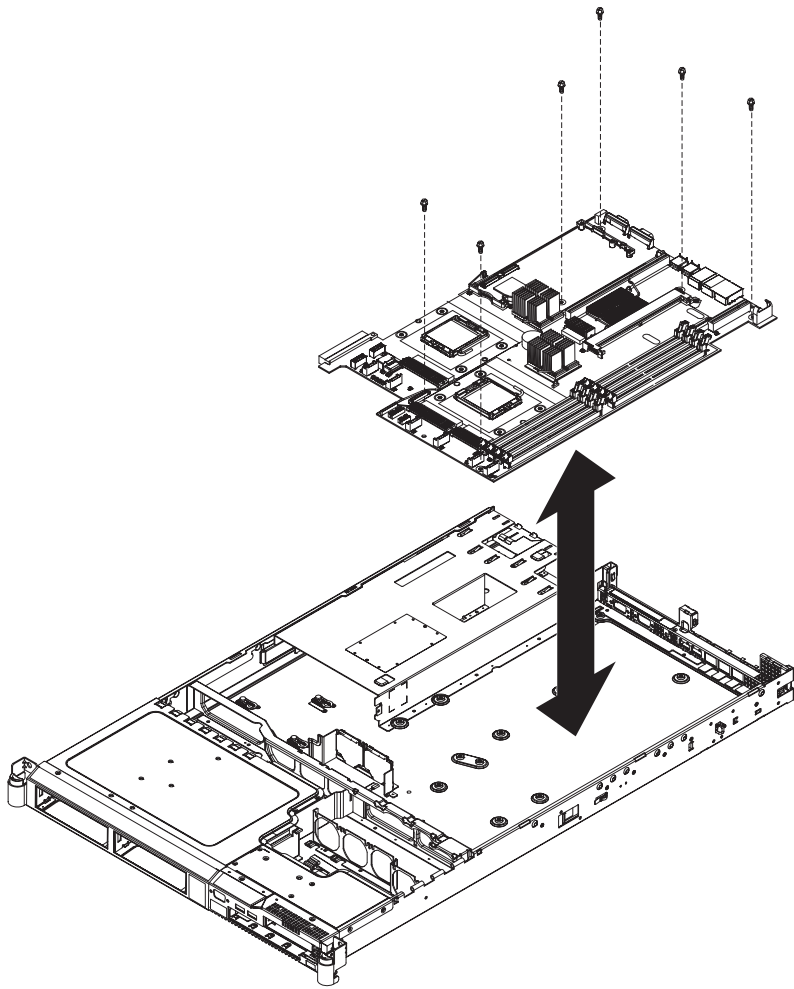

Figure 293. The placement of the screws that secure the SAN Volume Controller 2145-8G4 system board
2. Replace the six screws on the system board, as shown in Figure 293 on page 311, to secure the system board to the chassis.